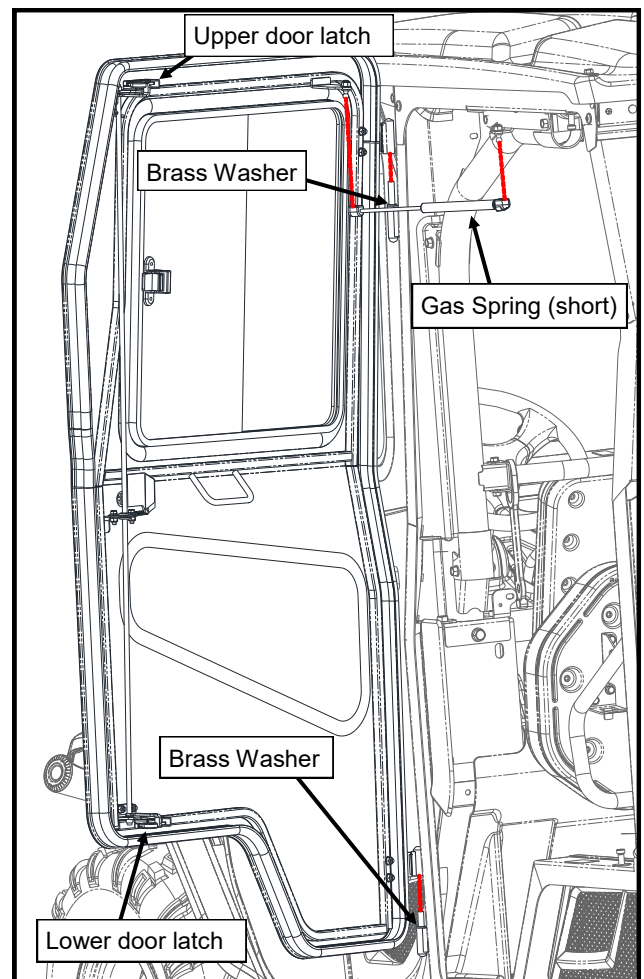

Figure 12.1: Rear Door Installation (Driver's side shown)
- 12.1 Install a total of four Brass Washers onto the weld-on hinge pins on the B-Pillars, one washer per pin (see Figure 12.1).
- 12.3 Holding the door perpendicular to the vehicle, lower the door hinge sleeves over the pins on the vehicle (see Figure 12.1).
- 13.7 Open door to slightly less than 90°. Install the shorter pair of gas springs onto the rear door and rear side header ball studs with the red tab quick release end on the side header (see Figure 12.1).